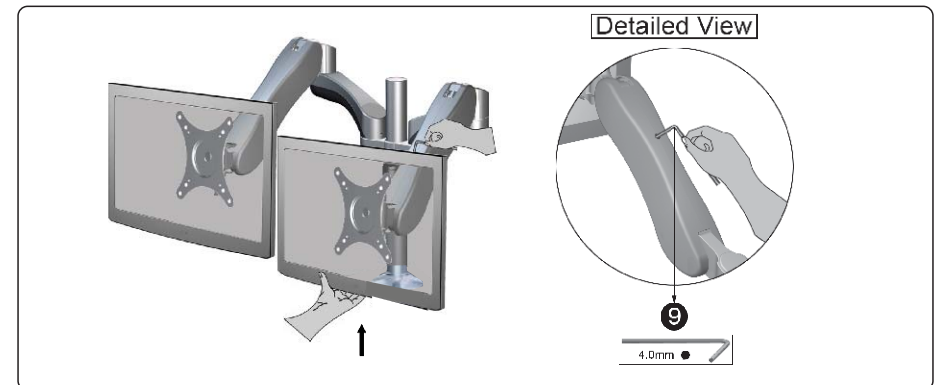

Figure 5-2
2. Referring to the weight of display monitor, it may be required to make adjustments to the Articulating Arm Assembly mechanism. If the display monitor doesn't hold its position or is too resistant, adjust the M6x33mm Tension Hex Socket Round Head Screw located on top of Articulated Arm using Hex Allen Wrench 4mm (9). (See Figure 5-2) Check the display monitor and then adjust again if it is necessary to make the adjustment.